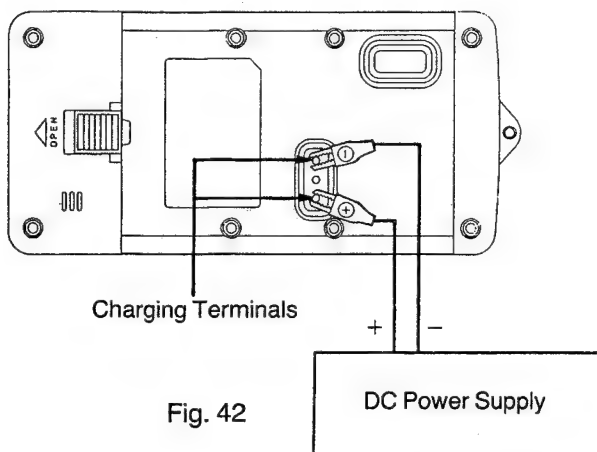

Fig. 42
1. Connect the DC power supply as shown in Fig. 42.